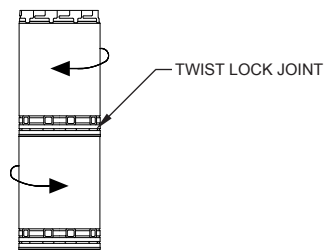

FIG. 3a
6. Install Temp Guard chimney sections starting at the TGCSP. Secure the sections by pushing together and twisting until stop-locked (See FIG. 3a). Additional chimney sections may be added to maximum height of 60 feet. At each additional ceiling, a firestop (TGFSFA) is required. Insert the TGFSFA into the joist area prepared in step 5. Continue this process for each floor level until the area above the attic.